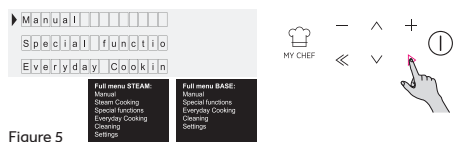

Figure 5
• Press the OK button when arrow on the display at MANUAL to set a cooking in 3 simple steps. (Figure 5)